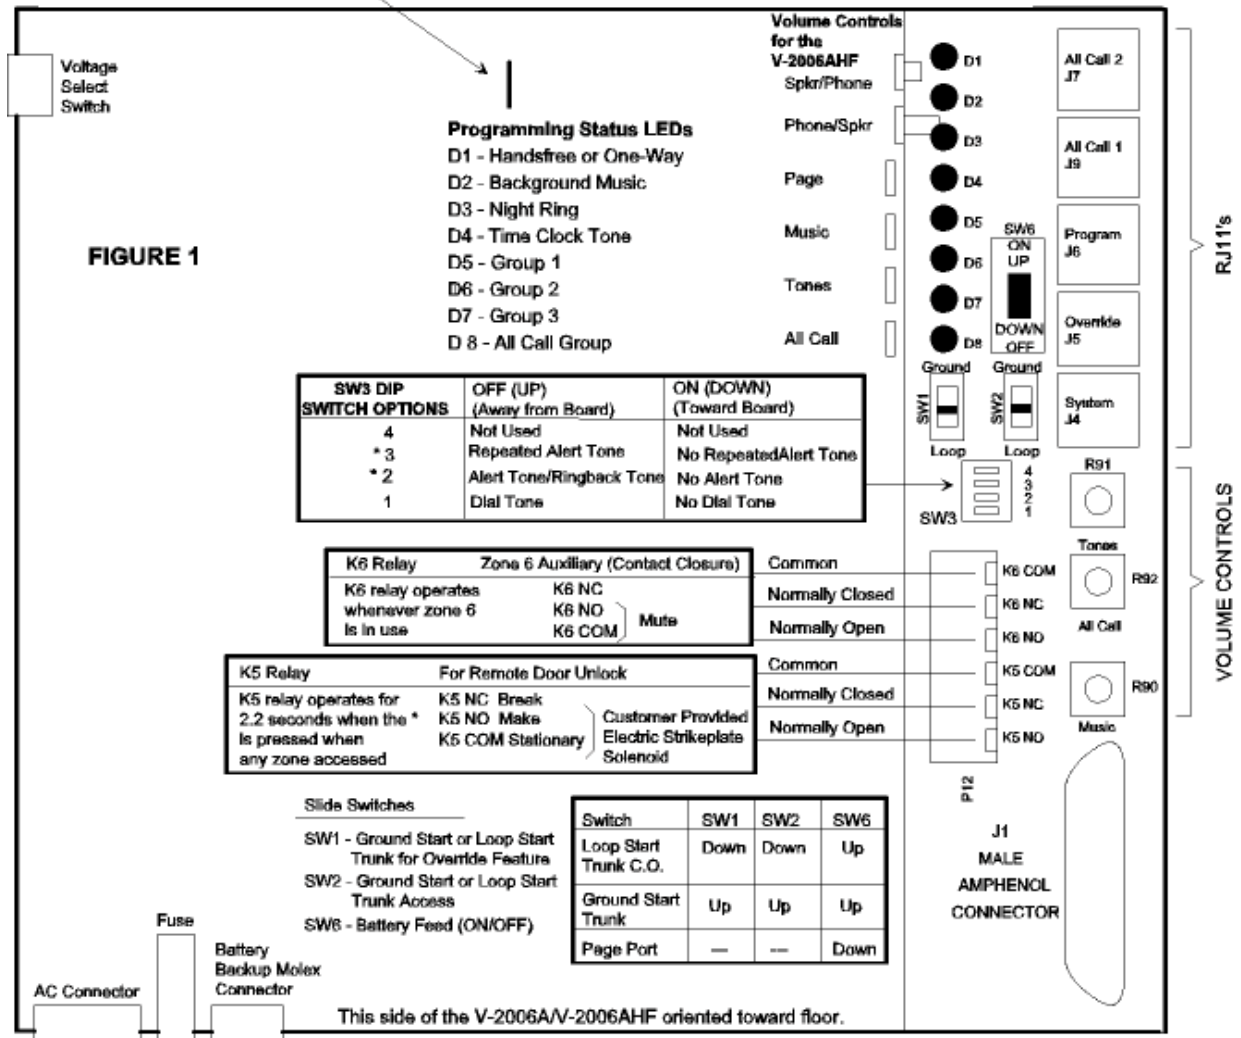

FIGURE 2
- 4. Plug the V-9956 board into the chassis of the V-2006A as shown in Figure 2. Insure the proper alignment of all pins for proper fit and operation.
- 5. Secure the V-9956 board to the V-2006A chassis using the two (2) screws and washers provided.
- 6. Insert the Phone to Speaker and Speaker to Phone volume controls into the cover of the V-2006A as shown in Figure 2. The control with the long shaft is Phone to Speaker; the control with the shorter shaft is Speaker to Phone. Secure these controls with the washers and nuts provided.